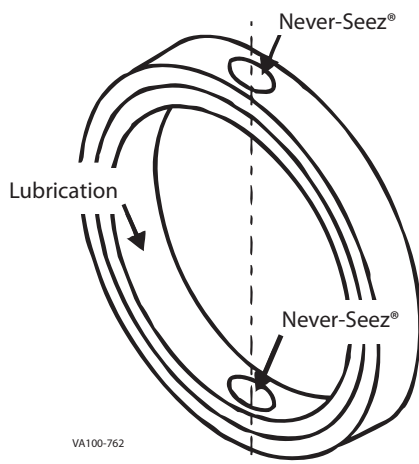

Figure 3 - Seal Lubrication
3. Remove the nuts and capscrews (items 4 and 5).
4. Separate the valve body halves (item 1).
5. Set the butterfly disc (item 2) to the open position.
6. Squeeze the seal (item 3) until oval shaped, then slide the short end of the stem from the seal.
7. Pinch the disc (item 2) between the thumb and forefinger, and pull the long end of the stem from the seal.
8. Check for a cracked or worn seal (item 3), stem and disc (item 2), or screw threads. Clean the valve disc and valve body (item 1) if necessary.
9. When inserting new seal, lubricate the inside diameter of the seal and apply Bostik Never-Seez® White Food Grade with PTFE or equivalent to the holes in the seal as shown in Figure 3.